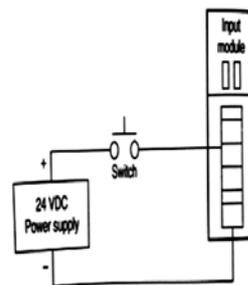

Fig 2 - Sinking D.C input module with a sourcing switch
4. In fig.2 current flows from positive terminal of 24 volt DC supply to switch then input module to negative terminal of supply, as far as input module is concern it act as sinking device for DC switch and sourcing device for 24 volt DC supply.